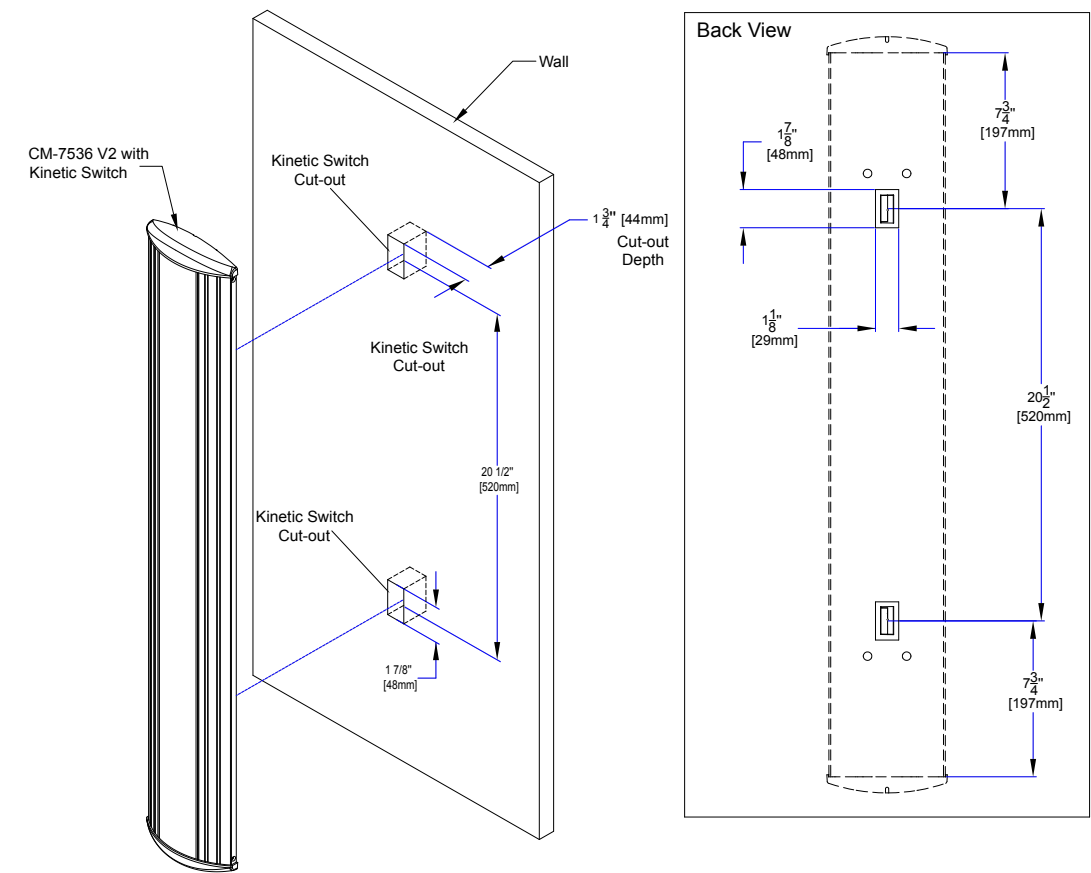

Figure 4.5 Kinetic Wall Mounting
c. **If using Kinetic RF:** The CM-7436K uses 2 Kinetic RF switches installed near the top and the bottom of the actuator. When pairing this switch with a Kinetic receiver, you must pair both the top and the bottom switches. The pairing of Camden Kinetic transmitters is detailed in the CM-RX90v2 installation manual. (Figure 4.5)